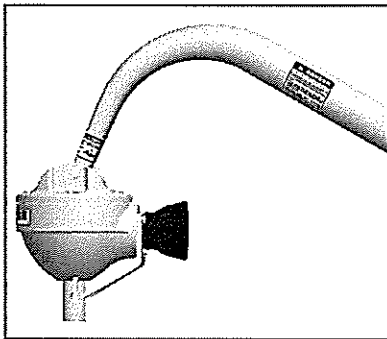

FIG. 5 - PINION GUARD
STEP 10: Discard the pinion protection cap (PN 6016). Slide the Pinion Guard (PN 6057) over the gearbox pinion (see Fig. 5). Slide the non-splined end of the driveline over the gearbox pinion, and secure with the Danuser 5/16"-18 x 2-1/4" (13/32" of thread) **special** shear bolt (PN 6015). Drive roll pin (PN 6061) through the hole in the Pinion Guard and into the end yoke so it rides in the groove in the pinion.